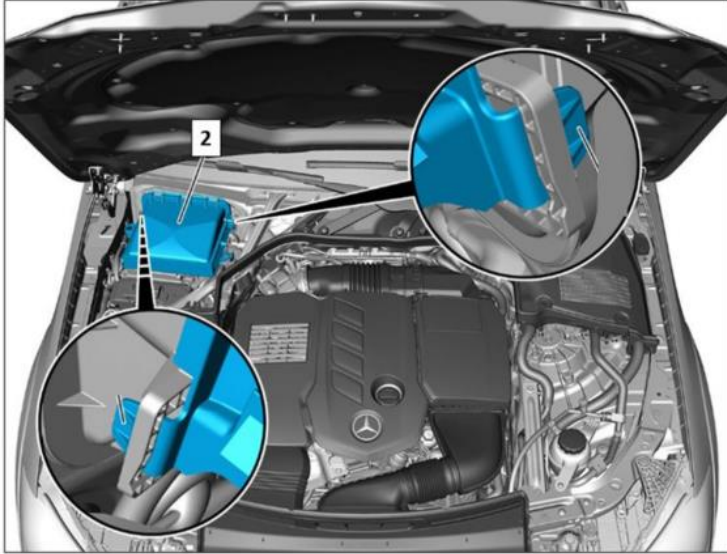

Figure 3, left-hand drive vehicle
1. Remove dust filter with air duct segment (2, Figure 3).